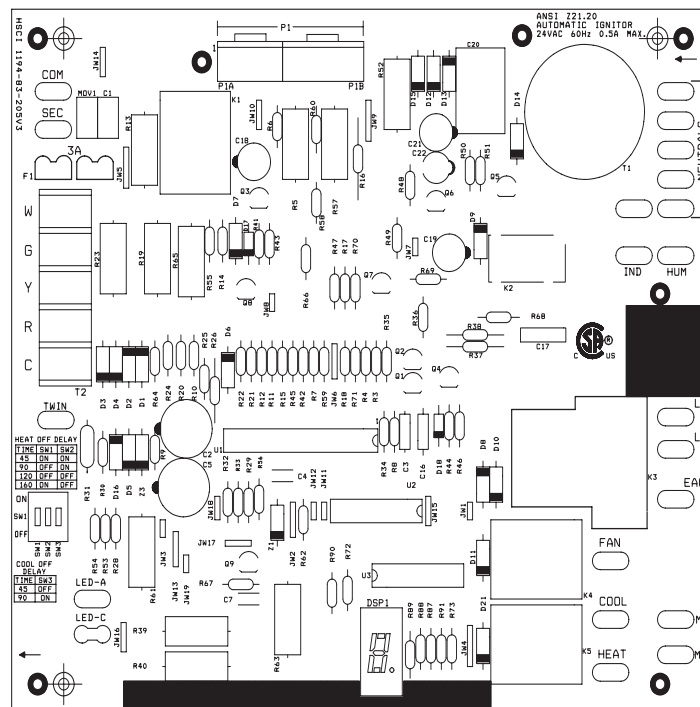
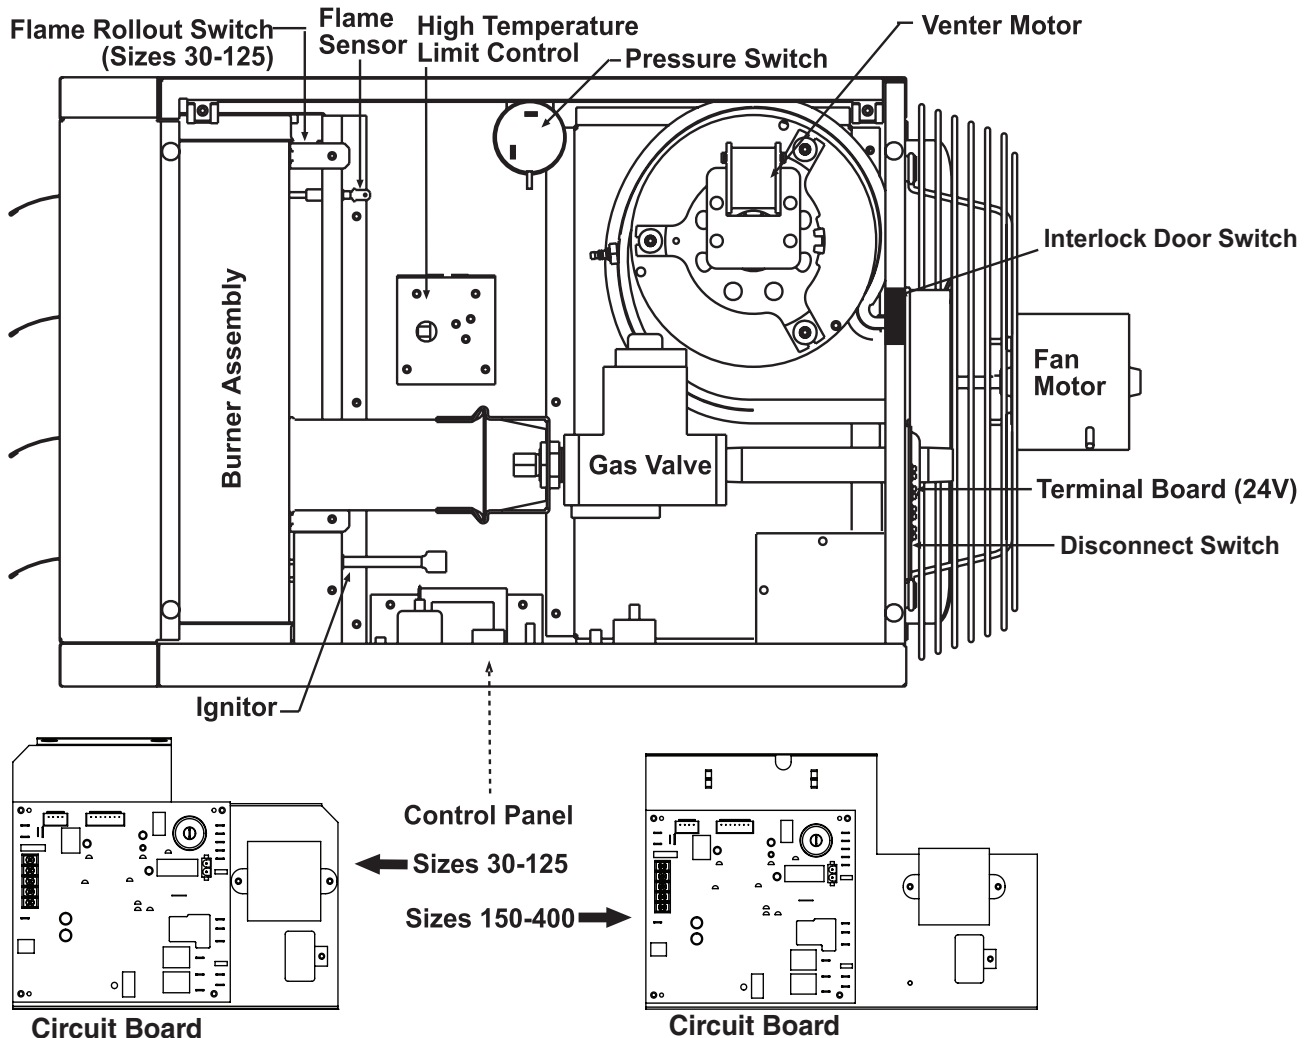

Figure 10. Circuit Board (DSI Control Module)
Figure 11. Component Locations (Typical)
- The circuit board (see **Figure 10**) is located inside on the bottom of the control compartment. The circuit board is polarity sensitive. It is advisable to check the electrical supply to ensure that the black wire is the hot wire and that the white wire is the neutral wire. The hot wire must be connected to terminal L1 on the circuit board.
Locations for the following controls are shown in Figure 11.
- The pressure (combustion air proving) switch (see Figure 11 for location) is a pressure-sensitive switch that monitors air pressure to ensure that proper combustion airflow is available.
All units are equipped with a temperature-activated, automatic-reset high temperature limit control (see Figure 11 for location). The control is factory-set and is non-adjustable. If the setpoint is reached, the control interrupts the electric supply to the combination gas valve. This safety device provides protection in the case of motor failure or lack of airflow due to a restriction at the inlet or outlet.
Unit sizes 30–125 of UDX and UDZ models are equipped with a temperature-activated, manually-reset flame rollout switch (see Figure 11 for location). The switch is factory-set and is non-adjustable. If the setpoint is reached, the switch interrupts the electric supply to the gas valve. If the flame rollout switch activates, identify and correct the cause before resetting the switch.
All UBZ and UDZ model units are equipped with an interlock door switch (see Figure 11 for location) that prevents the heater from operating when the service door panel is open. The service panel is equipped with a pliable gasket that fully seals the door to provide added protection to prevent building air from entering the combustion zone of the heater.
The combination gas valve (see Figure 11 for location) is powered by the 24V control circuit through the thermostat and safety controls. The diaphragm-type valve is pre-set at the factory and provides regulated gas flow.
The venter motor (see Figure 11 for location) is assembled to the venter wheel and operates to provide combustion airflow. Operation is controlled by the circuit board (see Figure 10). Refer to the Circuit Board \(DSI Control Module\) section for details.
The heater's ignition system is controlled by a circuit board (Direct-Spark Integrated (DSI) control module, see Figure 10) that monitors the safety devices and controls the operation of the fan and venter motors and the combination gas valve between heat cycles. The module's Seven-Segment Display (SSD) is visible through a viewport on UBZ and UDZ models. To view the SSD on UBX and UDX models, the door panel requires removal. In addition, there is a status LED on the bottom of the heater. Its status indications are **off** (heater is not powered or control board fault), **steady on** (heater is on with no faults), or **flashing** (heater is on with fault(s)). Additional status indications appear on the display at the bottom of the control module (labeled as DSP1, see Figure 10). The display's codes are listed and described in the Unit Troubleshooting Using DSI Control Module section.